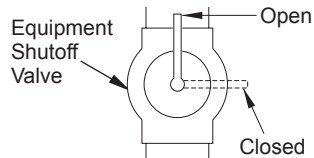

Figure 20 - Equipment Shutoff Valve
1. Close equipment shutoff valve (see Figure 20).
1. Open equipment shutoff valve (see Figure 20).